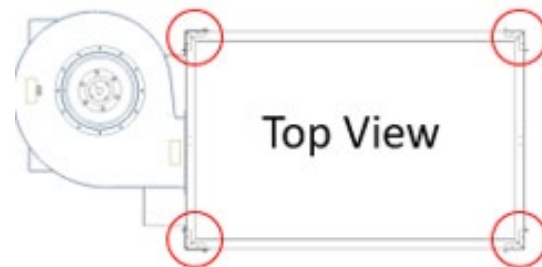

Figure 7 - Installation of End Rails
7. Install the (2) end rails (end rails are identical for the S-500, S-750 & S-1000) (*Figure 7*).